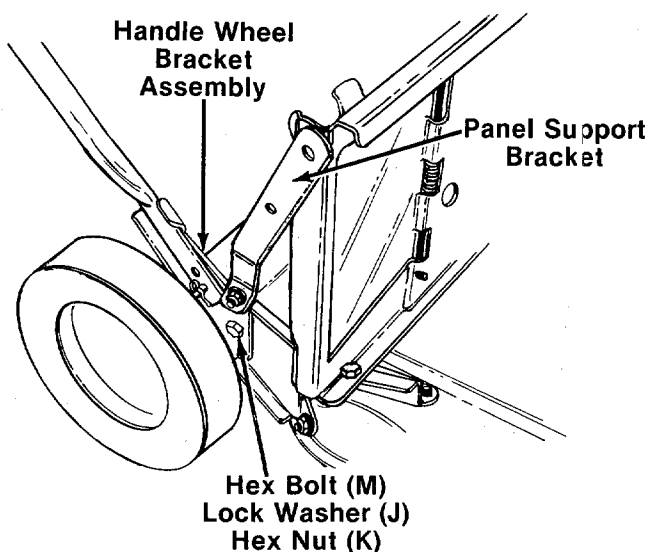

FIGURE 14.
3. Place the panel support bracket in position on the right side of the unit. The bend in the bracket goes toward the outside of the unit, and the holes are positioned as shown in figure 14. Secure bottom of bracket to the handle wheel bracket assembly with one hex bolt (M), lock washer (J) and hex nut (K), finger tight only. See figure 14.